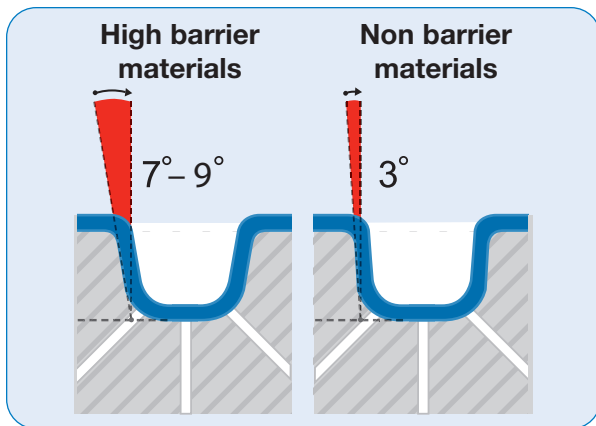

Figure 2
- Draft angle⁴ of 7° to 9° (*Figure 2*). These higher draft angles will produce less thinning of the forming material than the lower draft angles (3° to 5°) typically used with non-barrier materials. Note that draft angle should be tailored to the size and shape of the cavity.